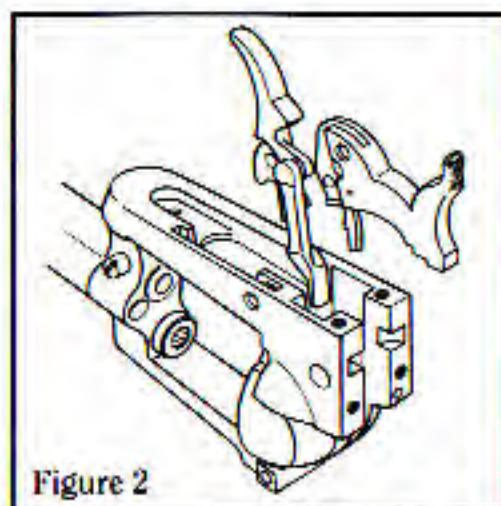

Figure 2
8. Remove hammer pivot. Then remove the hammer/pawl assembly and the trigger/transfer bar assembly. (Note that the hammer is attached to the pawl and the transfer bar is attached to the trigger. See Figure 2).
1. Assemble pawl to hammer and transfer bar to trigger as shown in Figure 2. Partially insert hammer/pawl assembly in its recess in the frame. Insert trigger/transfer bar assembly in its slot in the frame. Then simultaneously complete insertion of the two assemblies into the frame.